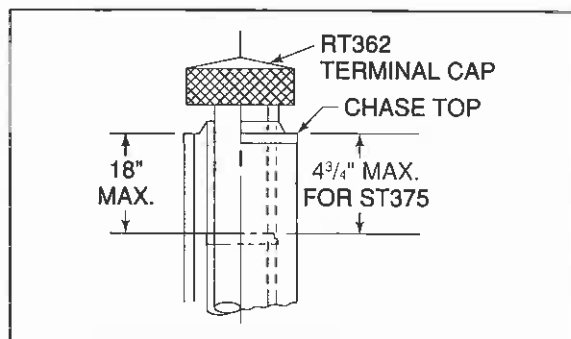

Figure 19
2. Install the Chimney Sections up through the chase. When using a Round Terminal Cap (RT354 or RT364), the last section of Pipe must extend above the Chase Top to allow installation of the Storm Collar and Terminal Cap. For installations utilizing a Telescoping Round Terminal Cap (RT362) or Telescoping Square Terminal Cap (ST376), the last Chimney Section must be below the top of the Chase Top, but not more than 18" below the Chase Top. For installations utilizing a Square Terminal Cap (ST375), the last Chimney Section must not be more than 4 3/4" below the base of the Chase Top. See Figure 19.